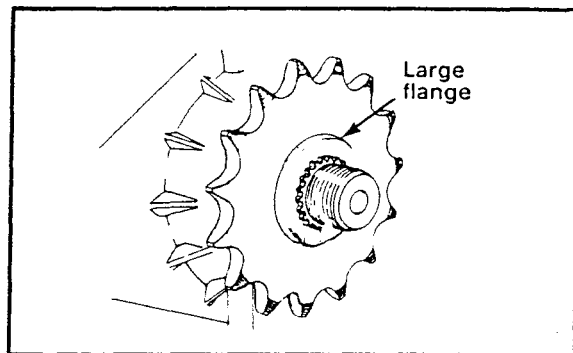

Figure 2-121. Transmission Sprocket
1. See Figure 2-121. Put Loctite 242 (blue) on mainshaft splines. Place sprocket on shaft with the largest flange facing outwards.